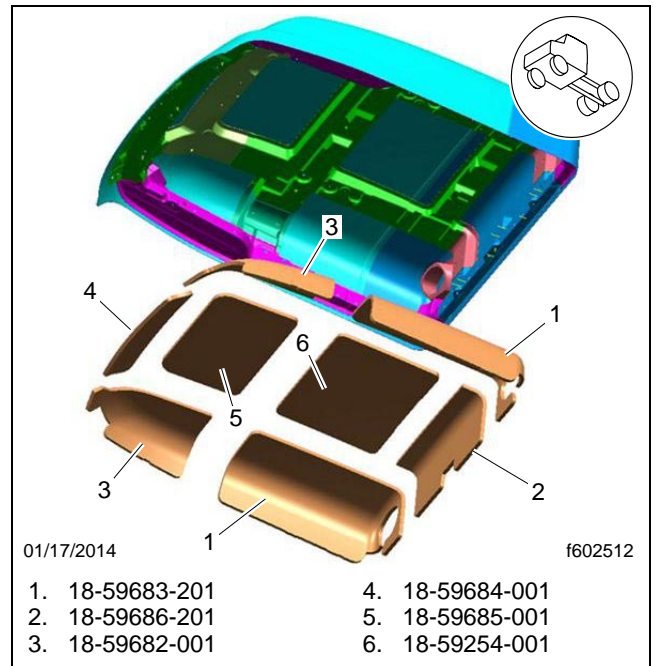

Fig. 8, 60-Inch XT Roof Cap Insulation Inserts
- See **Fig. 8** for 60-inch XT roof cap insulation inserts.